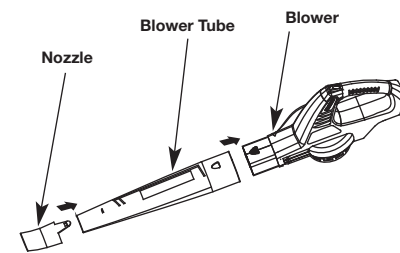

Fig. 1
1. Align the widest end of the blower tube with the front opening on the blower (Fig. 1).